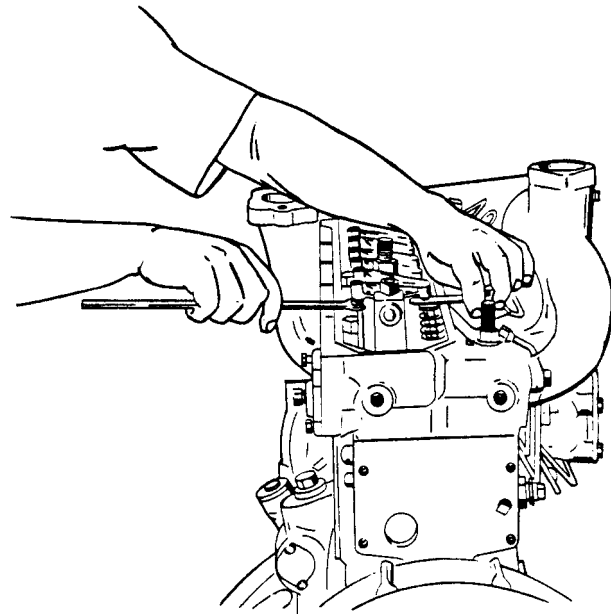

Figure 3-41. Valve Clearance Adjustment
c. With engine running at slow idle, check for 0.015 inch clearance between rocker arm and end of the valve stem, using a feeler gauge as shown in figure 3-41.
d. If valve clearance is incorrect, adjust setting of the adjusting screw to provide required clearance. Refer to figure 3-41. When properly adjusted, there will be a slight drag on feeler gauge with valve in unoperated position.